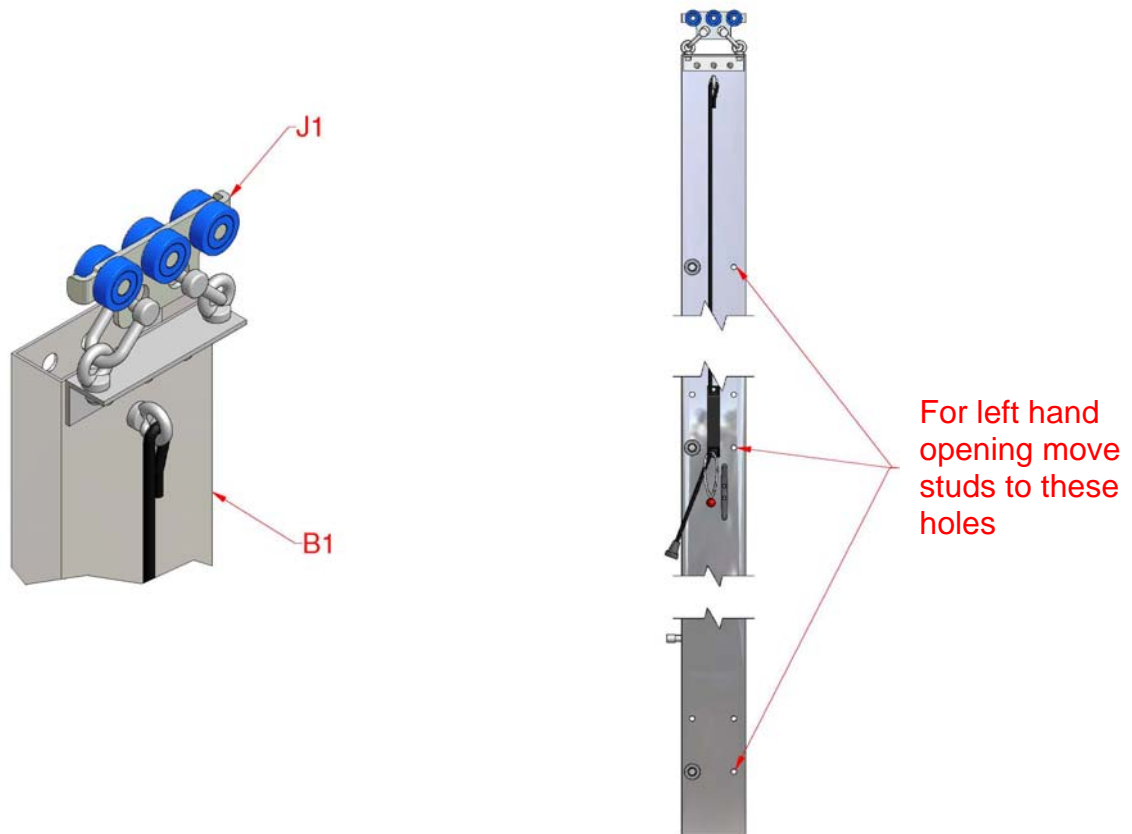

Figure 3a, Post and Trolley
2. The sliding post is delivered for a system opening to the right. The locating studs for the snap hooks are pre-fixed on the left-hand side of the post ready for the 'windseal' aluminium profile to be positioned to the other side. If your system is to open to the left, move the locating studs to the pre-drilled holes on the opposite side as in Figure 3a.